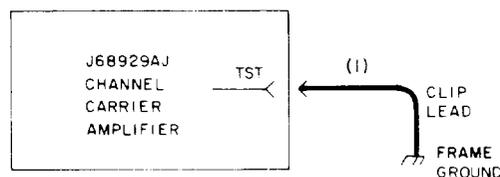

Fig. 25—Connections—Channel-Carrier-Detector-Operation Test—Unprotected Carrier Supply
36	Connect the TST jack on the face of channel carrier amplifier unit 1 to the frame ground [connection (1), Fig. 25]. Note: This connection operates the channel carrier detector without affecting the associated channel carrier. Requirement: Either the office minor alarm (option X) or office major alarm (option Y), depending on the local office alarm assignment, is activated.